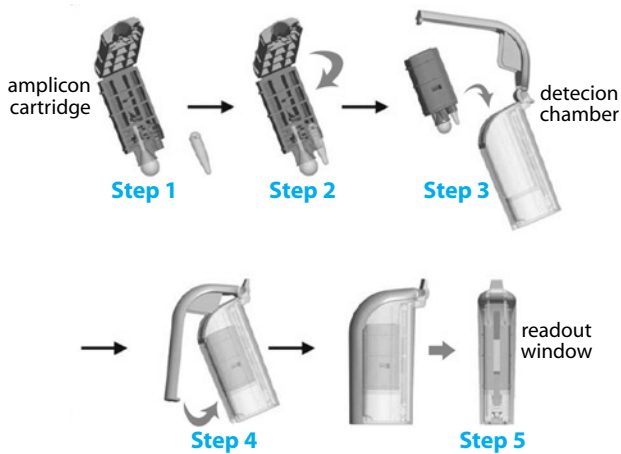

Figure 1. Diagrams for detection procedure.
- 3.2 Insert the reaction tube in an amplicon cartridge next to running buffer (Fig. 1, step 1). Fold the cartridge in half and firmly close it (Fig. 1, step 2), revealing an arrow on the top.
- 3.3 Insert the closed cartridge halfway in a detection chamber (Fig. 1, step 3), with the arrow pointing the DNA test strip: do not use force to push it down.
- 3.4 Keep the assembled cassette upright and lower the handle and push it into the chamber body to close the cassette (Fig. 1, step 4). The handle will push the cartridge down, and lock into place when closed completely (Fig. 1, step 5).